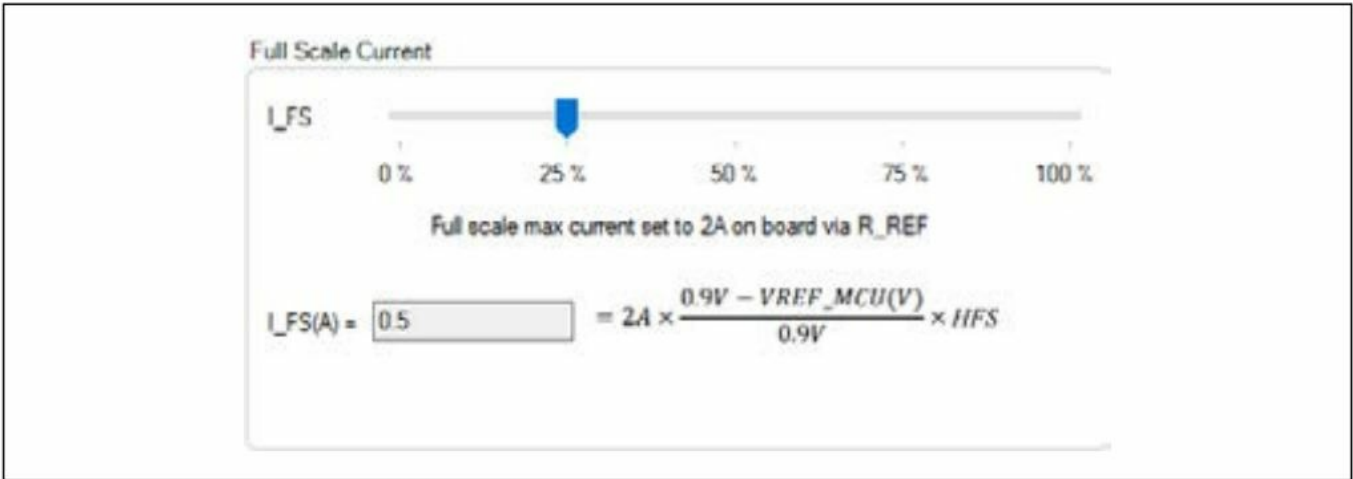

Figure 9. Full-Scale Current, Motor-Control Group Box
- The Full Scale Current group box allows the user to scale the maximum full-scale current used to drive the stepper motor from 0% to 100% (see Figure 9). The maximum full-scale current is set to 2A by the on-board RREF resistor and can be scaled using the I_FS slider.